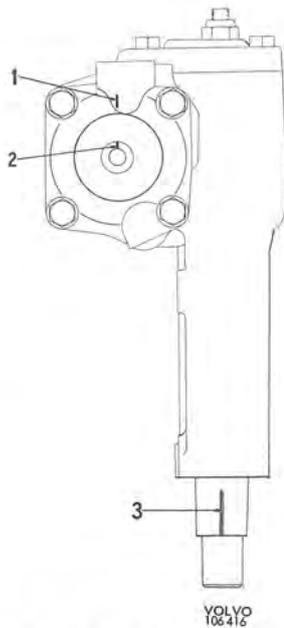

Fig. 6-58. Steering gear housing in middle position
1. Place the steering gear housing in the middle position. A slight increase in resistance should then be felt and the position of the pitman arm shaft lands should be as in Fig. 6-58 and the line-up marks on the steering spindle and housing should coincide.